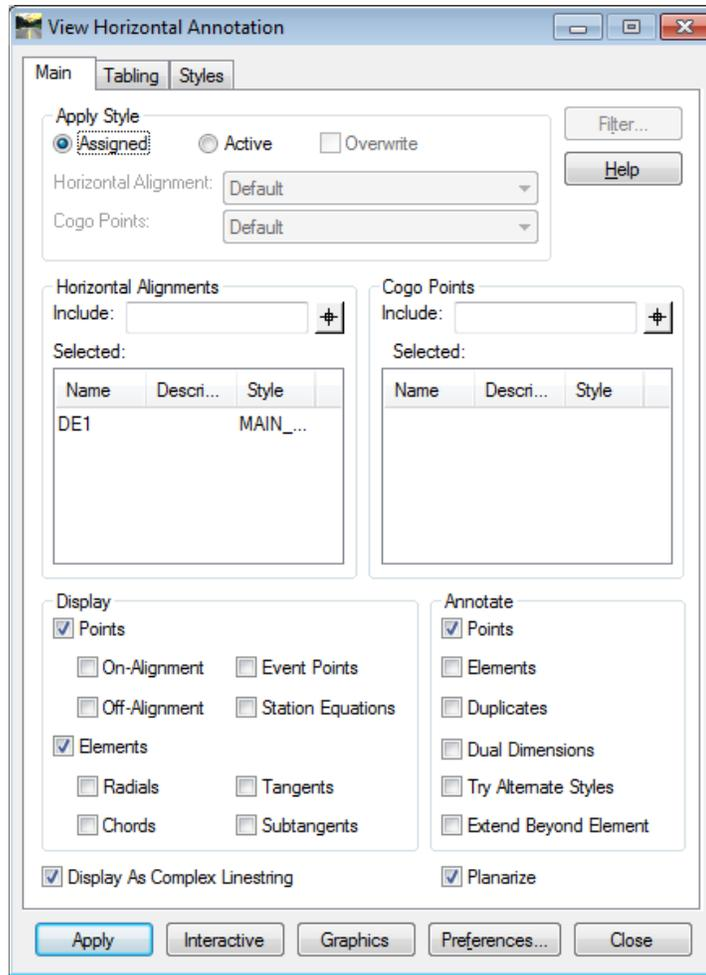

Figure L2-14 View Horizontal Annotation
- Verify your entries match those shown in *Figure L2-14*.